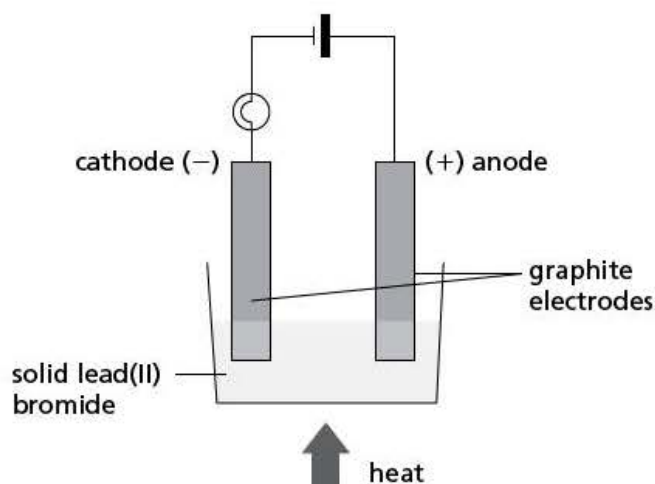

Figure 1
- 1 Set up the circuit as shown in Figure 1 with the crucible set in a pipe-clay triangle which is set on a tripod on a heat-resistant mat.
- 2 Half fill the crucible with lead(II) bromide and set the voltage supply to 6 V.
- 4 Now heat the crucible strongly and melt the lead(II) bromide.